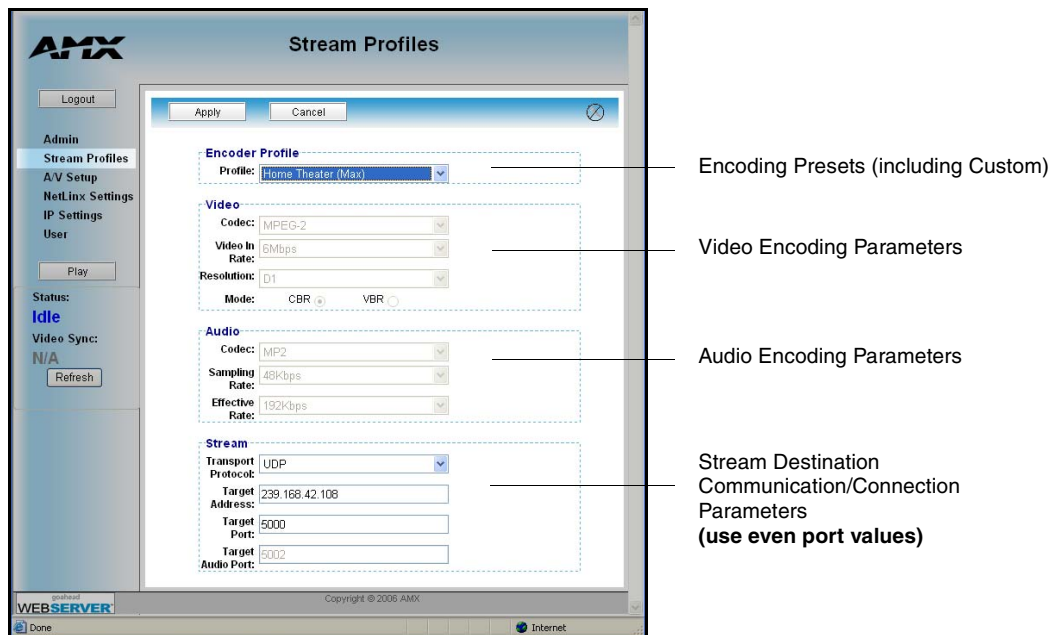

FIG. 129 Stream Profiles page
7. Access Stream Profiles page (FIG. 129) by clicking the **Stream Profiles** link from within the Navigation frame. This page allows a user to both configure the properties of the outgoing media stream and setup the properties associated with communicating the stream to an external IP-enabled device capable of receiving and processing the data.